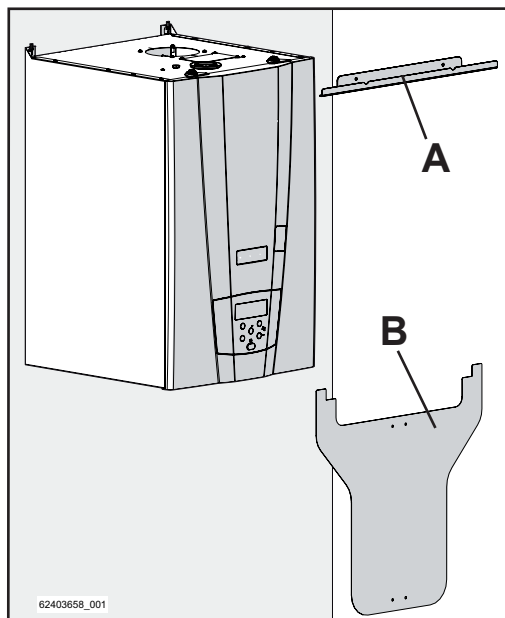

Figure 5-22
- 1 - Position upper fixing bracket "A" and the centring template "B" on the wall, as shown in figures 5-22 and 5-23;